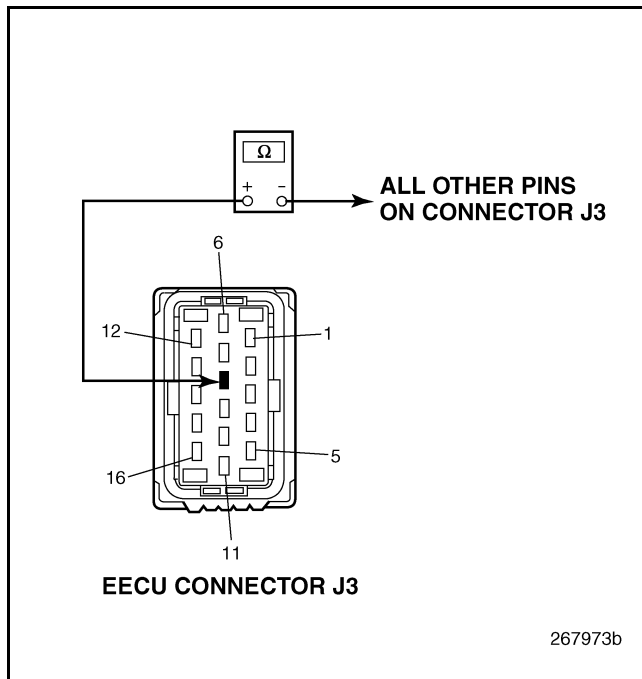

Figure 435
4. Install the purple male test lead found in the J 38581 V-MAC Jumper Wire Kit into EECU harness connector J3, pin 8. Check for continuity between EECU harness connector J3, pin 8 and all other pins in EECU harness connector J3 (see Figure 435).